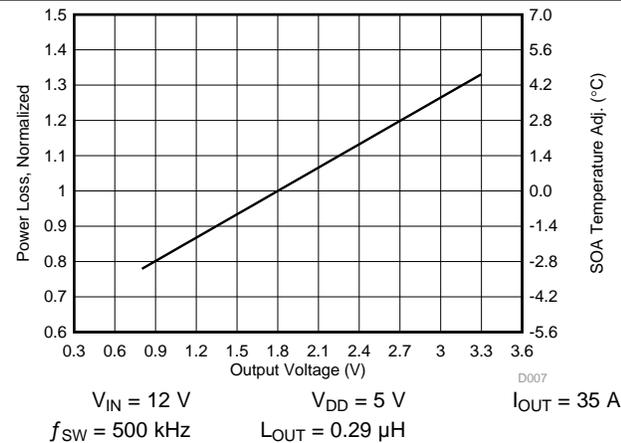

Figure 10. Normalized Power Loss vs Output Voltage
- Normalized power loss for output voltage \approx 1.04 (Figure 10)
- SOA adjustment for output voltage \approx 0.62°C (Figure 10)